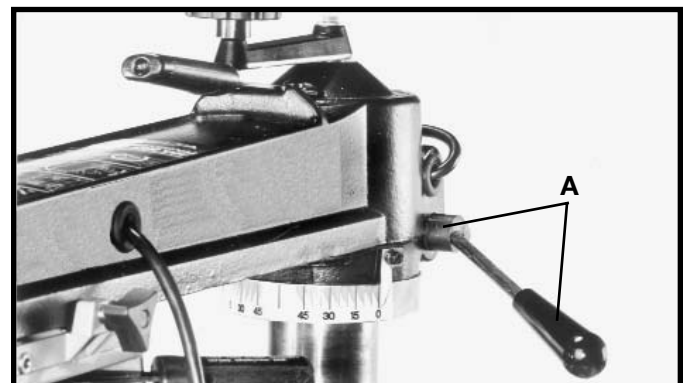
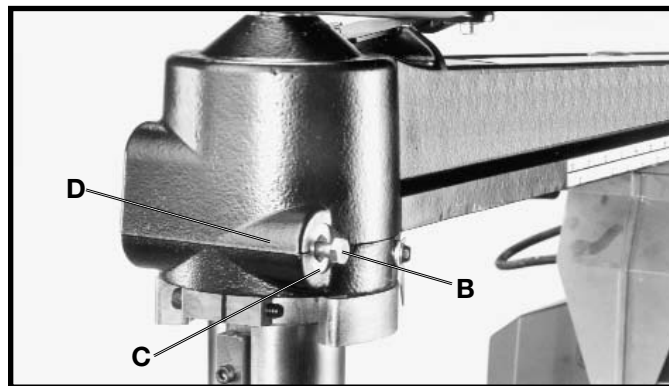
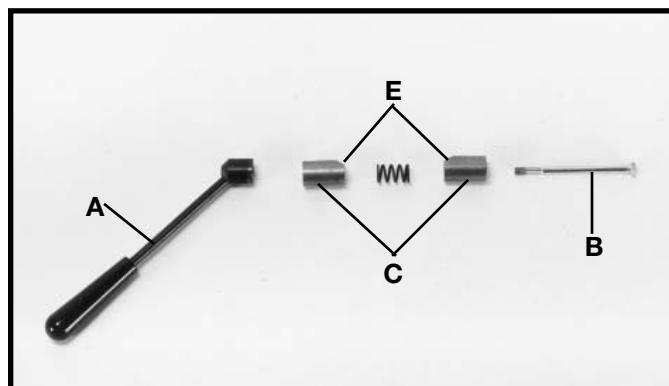

Fig. 66
Fig. 67
Fig. 68
When the track arm clamping handle (A) Fig. 66, does not lock in a convenient position, it may be repositioned as follows:
2. Loosen and remove track arm clamping lever (A) Fig. 66, and push hex bolt (B) Fig. 67, back through hole until head of bolt is out of the recessed bushing (C) as shown. **NOTE: Track arm clamping lever has left hand thread.**
3. Rotate hex bolt (B) Fig. 67, in the desired direction which the handle needs to be turned.
4. Push hex bolt (B) Fig. 67, back through hole. Make certain head of hex bolt is seated properly in recessed bushing (C), and reassemble track arm clamping lever. **NOTE: If track arm clamping lever (A) Fig. 66, tightens before approximately four turns, it is possible the clamping bushings, one of which is shown at (C) Fig. 67, may have rotated. These bushings should be seated completely inside track (D) as shown. If they are not, slightly loosen clamping lever (A) Fig. 66, and rotate clamping bushing (C) Fig. 67, until it seats properly into track (D) as shown. It may be necessary to rotate bushing on clamp lever side also. Fig. 68, illustrates track arm clamping lever assembly unassembled for illustration purposes only. The flats (E) Fig. 68, on clamping bushings (C) should face the front of saw.**
NOTE: Clamp lever (A) Fig. 68, will begin to thread at one of two positions. If after making the adjustment the clamp lever (A) tightens 180 degrees from where desired, slowly unscrew clamp lever (A) while holding in on hex bolt (B). When the clamp lever (A) comes off hex bolt (B), rotate clamp lever (A) 180 degrees. Then start to tighten clamp lever (A).